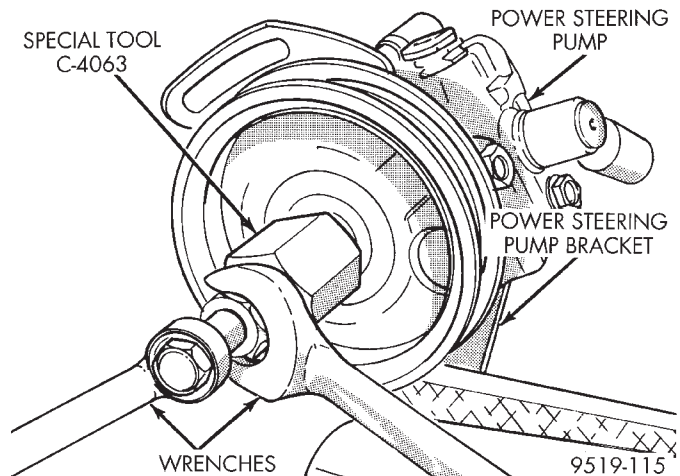

Fig. 50 Installing Pulley On Shaft Of Power Steering Pump
(4) Mount Installer, Special Tool C-4063 in internal threads of the power steering pump shaft and against Special Tool 6936 on power steering pump pulley (Fig. 50).